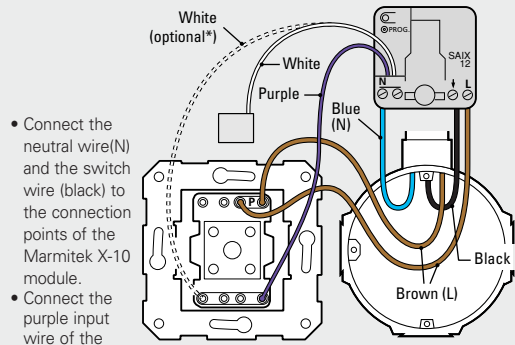

Figure 3.
- Connect the neutral wire (N) and the switch wire (black) to the connection points of the Marmitek X-10 module.
* The connection of the white wire to the switch (e.g. to a series switch) is optional (see Figure 3). If it is not connected then this wire should be insulated.